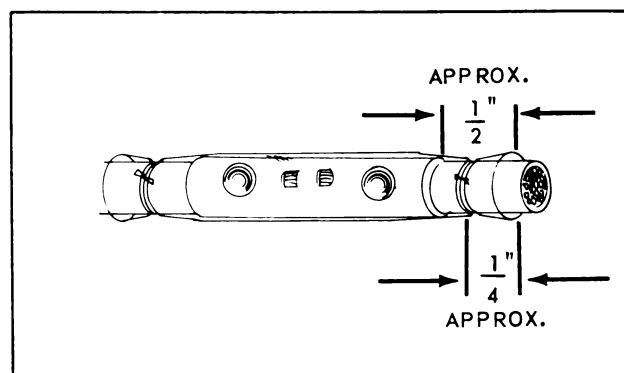

Figure 5-16. Insulating Sleeves for Splices for Size 8 and Larger
1. Use micrometer or depth indicator with point adapter to measure "T" dimension as shown in Figure 5-16.